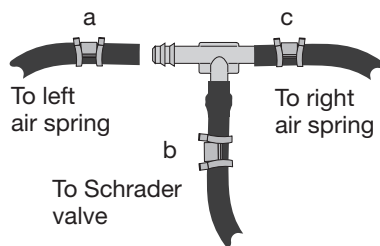
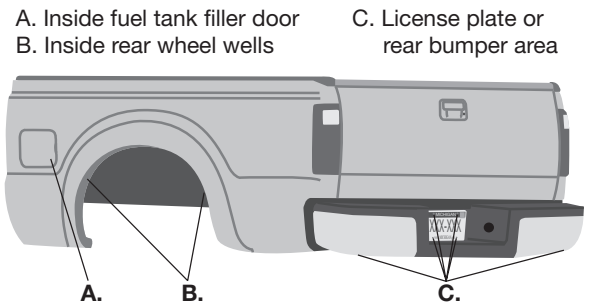

fig. 7
fig. 8
2. Use this procedure (Fig. 7) for all air line connections:
- a. Slide the air line clamp (L) onto the air line.
3. Select a location for the Schrader valve (K), ensuring that the valve will be protected and accessible with an air hose (Fig. 8). Determine and cut adequate length of air line (C) to reach from the tee to the Schrader valve or from the air springs to the valve if using a dual-path installation.